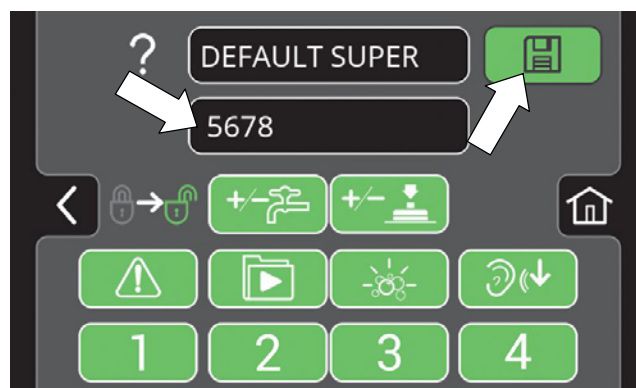

FIG. 193
5. Press the factory-assigned login code and enter a new login code (Figure 193). Press the flashing save button to save the new login code.